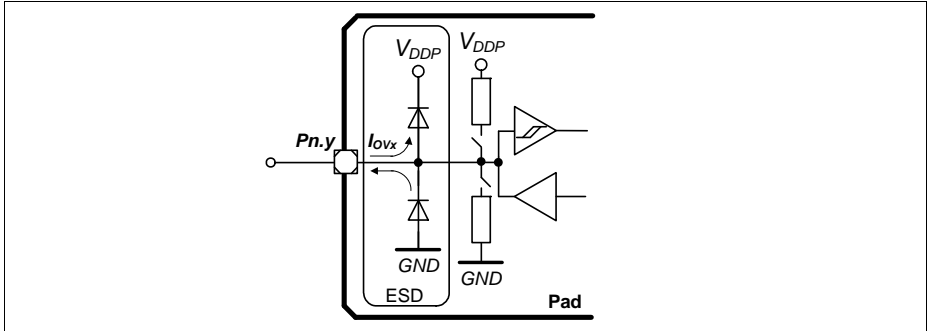

Figure 10 Input Overload Current via ESD structures
**Figure 10** shows the path of the input currents during overload via the ESD protection structures. The diodes against  $V_{DDP}$  and ground are a simplified representation of these ESD protection structures.